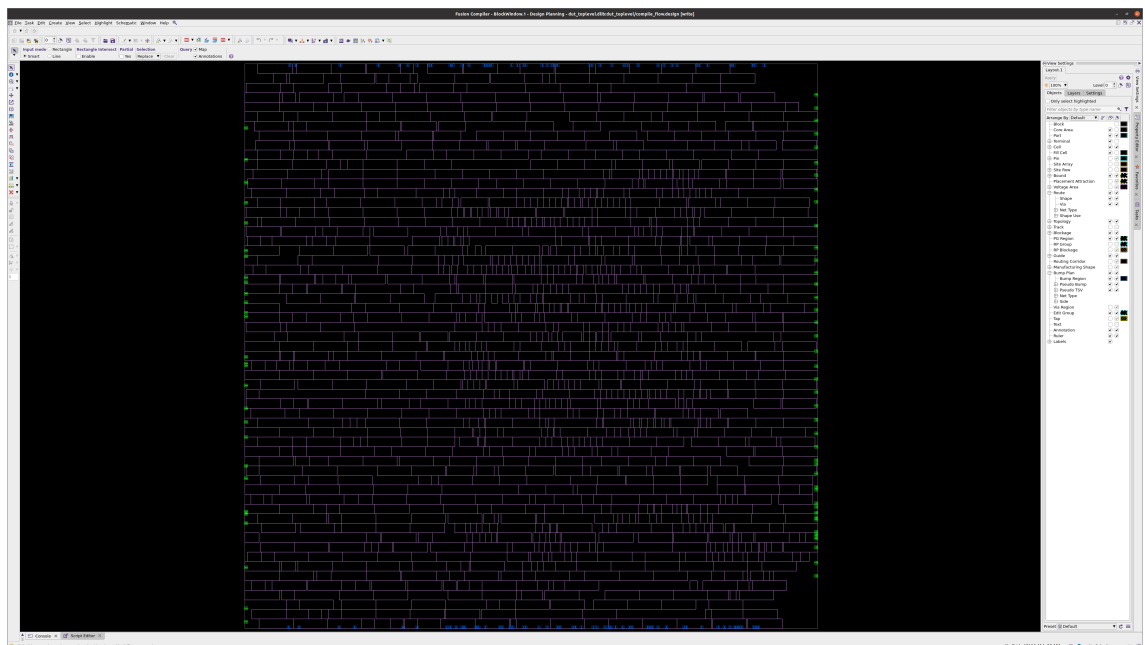

Figure 2.5: Layout after `final_opto`. Changes from `final_place` are small.
7. `final_opto` moves some cells, but there aren't significant differences from `final_place`. (Fig. 2.5)